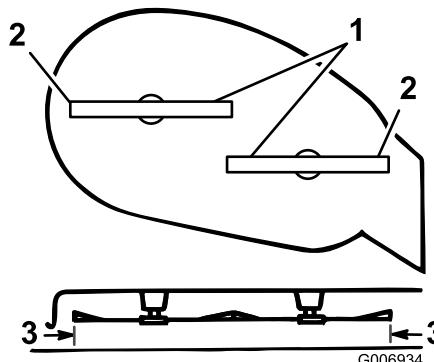

Figure 35
- Carefully rotate the blades side to side (Figure 35).
- Measure between the outside cutting edges and the flat surface (Figure 35). If both measurements are not within  $3/16$  inch (5 mm), adjust them; continue this procedure.